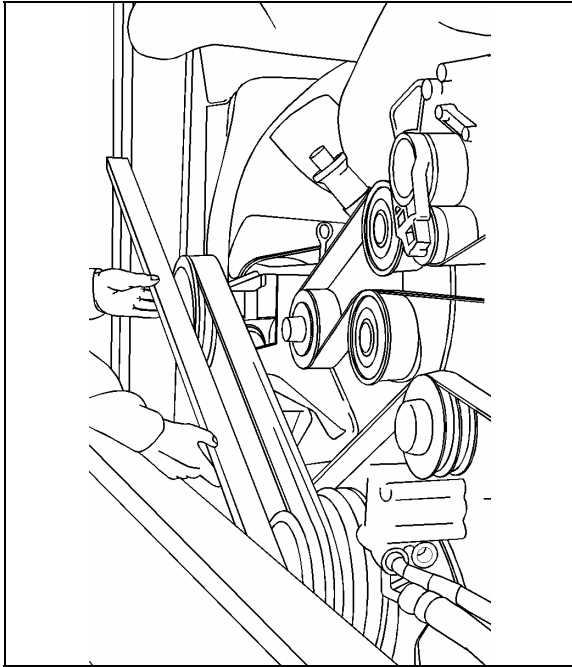

FIGURE 20: PULLEY ALIGNMENT
- Using a straight edge, align the 3"V" pulley on gearbox central shaft pulley with engine pulley, while taking pulleys outer edge thickness under consideration i.e. 3"V" pulley's outer edge is thicker than that of engine pulley's (Fig. 20).